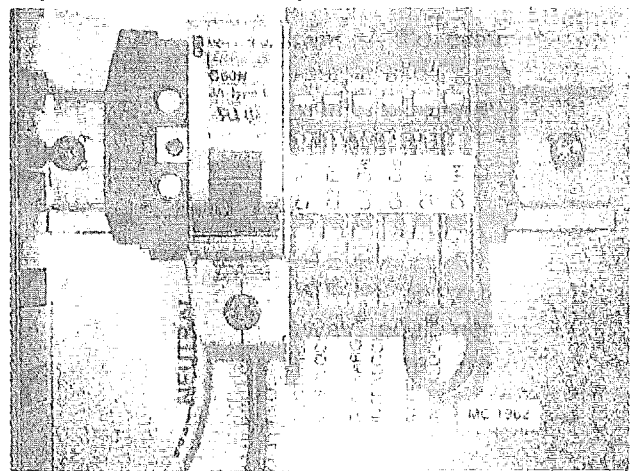

Figure 7B - 570 thru 970
3. On Models CF520/620/720 and CF820, which have a level auger, the non-powered auxiliary contacts of the level auger starter are used to control the fill auger motor contactor. See Figure 7B.
4. On Models CF520/620/720 and CF820 unload auger motor contactors have non-powered auxiliary contacts that can be used to control the customer supplied take-away equipment. See Figure 7B.